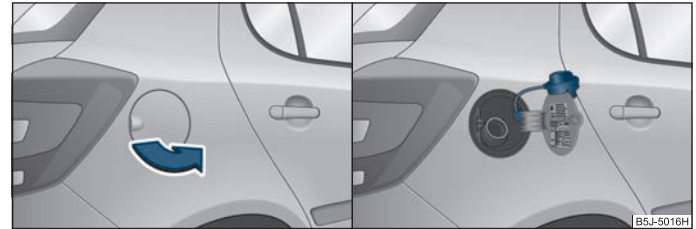

Fig. 137 Right rear side of the vehicle: Fuel filler flap / fuel filler flap with cap unscrewed
- Open the fuel filler flap with the hand ⇒ fig. 137 - left.
- Unscrew the fuel filler cap anti-clockwise and place the fuel filler cap from above on the fuel filler flap ⇒ fig. 137 - right.